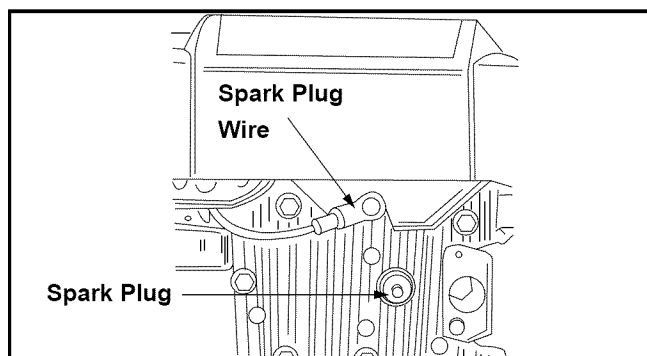

Figure 2
- Before setting up your lawn mower, disconnect the spark plug wire from the spark plug. See Figure 2.